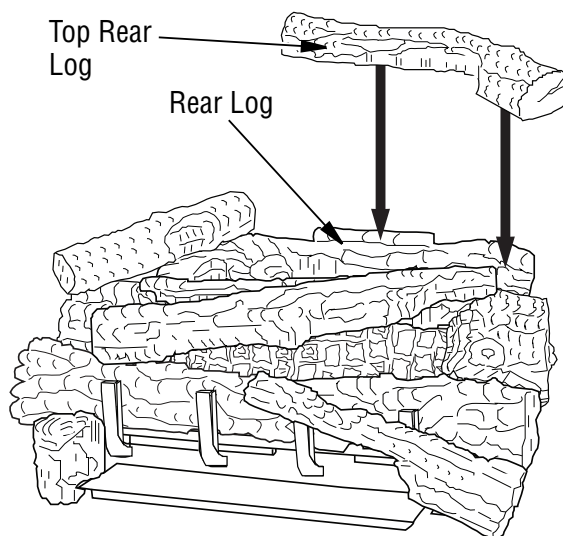

Figure 40 - Installing Top Rear Log
12. Place the top rear log onto the rear log as shown. The rear log has a projection that will fit into the recess area on the bottom of the top rear log (see **Figure 40**).